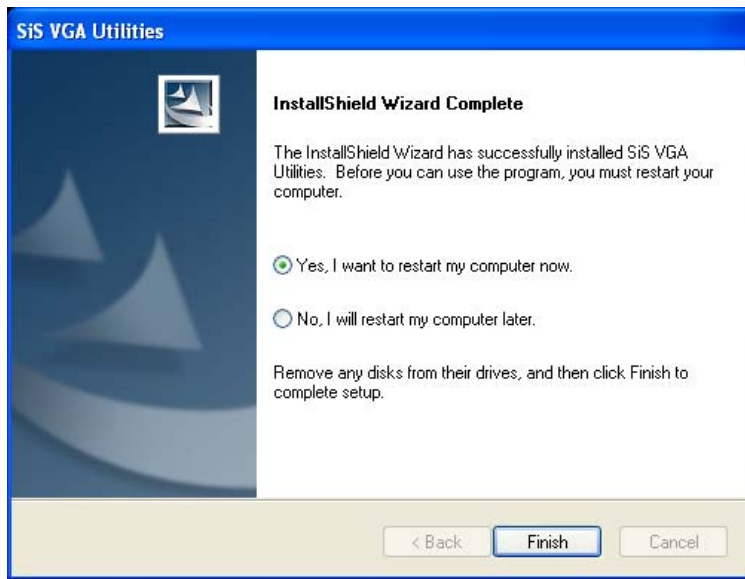

Figure 7-18: VGA Driver Installation Complete
Step 19: The installation complete screen in **Figure 7-18** appears.